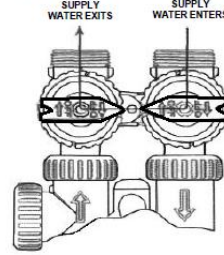

Figure 3 - Bypass
2. **Bypass Position:** The inlet and outlet handles point to the center of the bypass. The system is isolated from the water pressure in the plumbing system. Untreated water is supplied to the building (**Fig. 3**).
- STEP 10:**      **MAKE SURE THE BYPASS VALVE IS IN THE "BYPASS" POSITION** (Figure3, Page 5)
- 1) Pressure must be relieved on the system by placing the Bypass Valve in the "Bypass" position (Figure 3, Page 5) and initiating a manual regeneration (section 3, page 10).